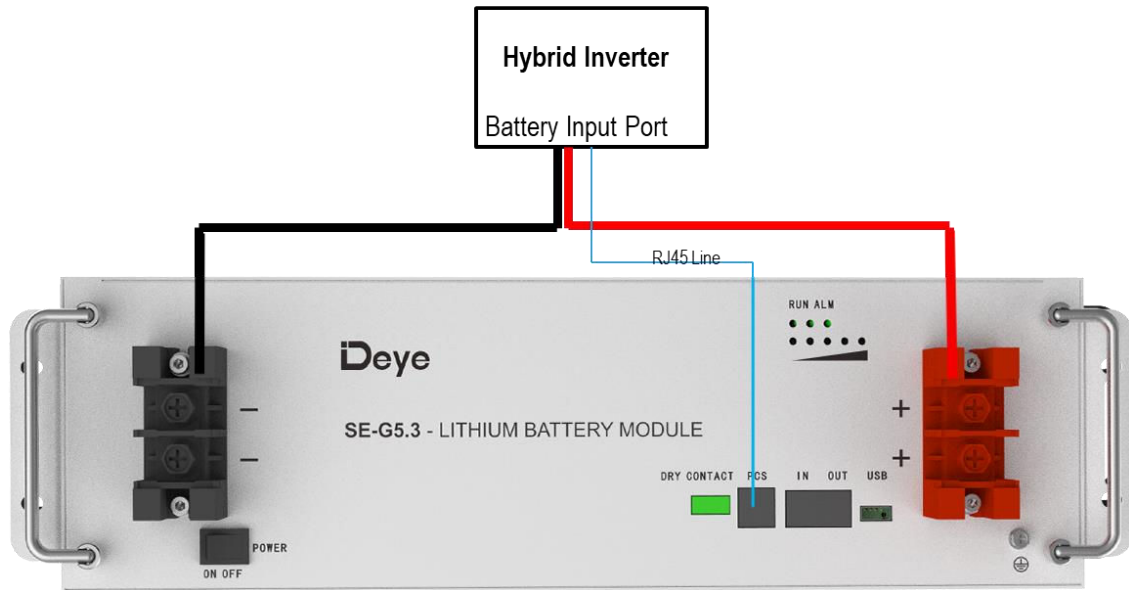

Figure 5-2: Single Battery Connection
- 5) Communication line connection as shown in Figure 5-2.